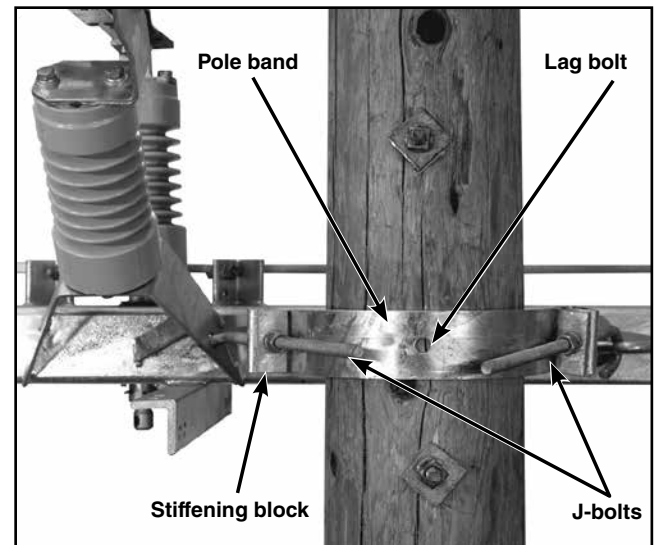

Figure 10. Attach the pole band and J-bolts.
- STEP 8.** Attach the pole band to the switch base anchor brackets using the J-bolts furnished. Use a stiffening block under each nut. See Figure 10.